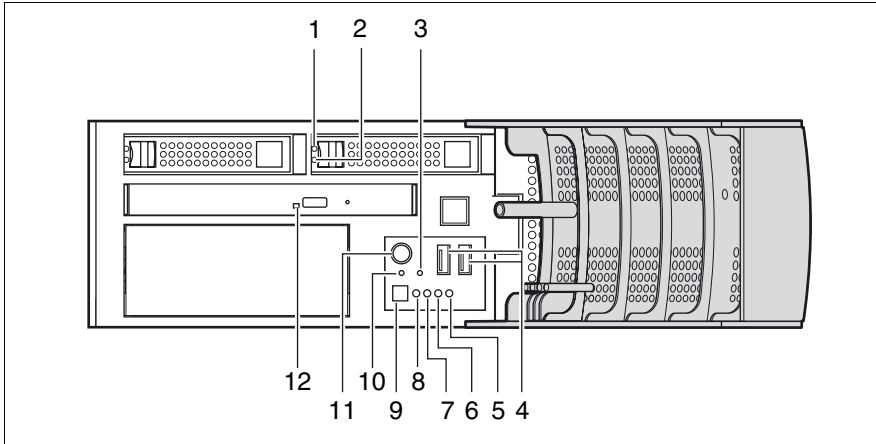

Figure 9: Front of server
Two additional USB ports are located on the front of the server (see figure 9 on page 44).
See items 1 and 2 in figure 9 on page 44.
The power-on indicator (item 5 in figure 9 on page 44) lights orange.
- ▶ Press the On/Off button (item 11 in figure 9 on page 44).
The power-on indicator lights up green (item 5 in figure 9 on page 44).
Power-on indicator (item 5 in figure 9 on page 44) lights green.